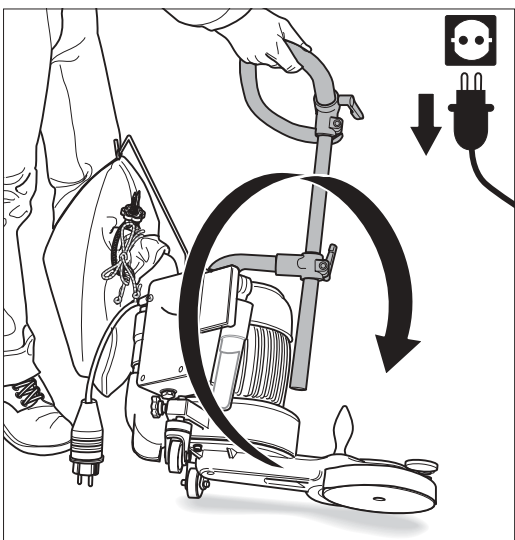

Fig. 76: Tilt the UNICO over to the **left-hand** side and set it down carefully.
- 3 Place the UNICO on its side by grabbing the machine by the handlebar on the right-hand side and then tilt the machine over to the **left-hand** side (Fig. 76) and set it down carefully.